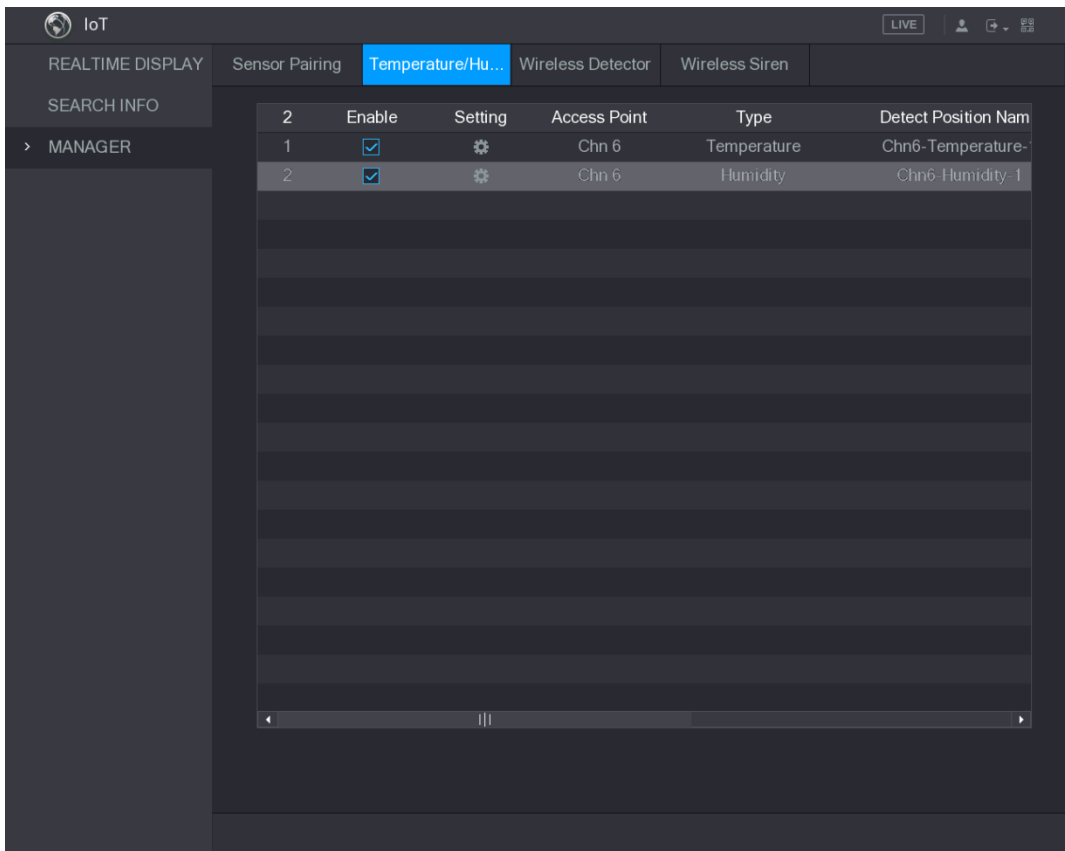

Figure 5-152
Step 2 Select the **Enable** check boxes to enable IoT function. See Figure 5-152.